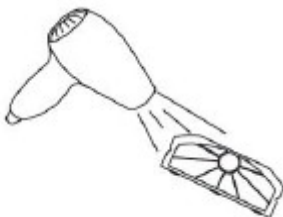
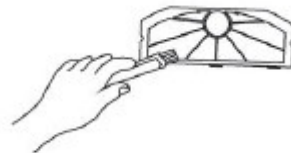

Fig. 4
Fig. 5
- D. Clean the filter by hair dryer with cold wind or using brush cleaner. (see Fig 4 and Fig 5)